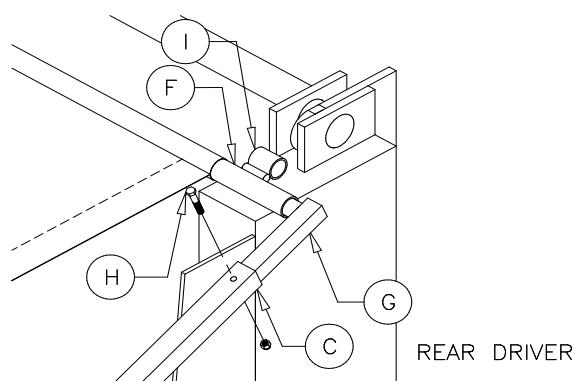

Figure 14
Using a 5/16" drill bit, drill through the bottom and top pivot arm on both sides of the box. Secure the pivot arms with the 5/16"x2" hex bolt (H) and 5/16" nylon lock nut provided (see Figure 14). Adjust the pivot arms so they are aligned with the sides of the box.